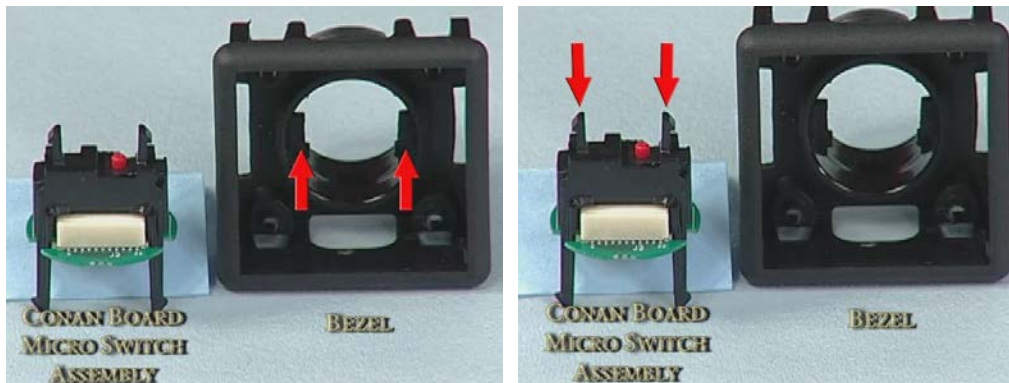

Figure 6
10. Next you will need to remove the micro switch and Conan board out of the bezel assembly. Looking at the example in **Figure 6** you will see that the bezel assembly has two lips on either side of the assembly. You can also see there are two locking legs on the Conan Board Micro Switch assembly.
12. To release the Conan Board Micro Switch assembly from the bezel. Using the magnet end from a pocket screwdriver push down and inward on each side of the two locking legs shown in Figure 6, then pull the assembly out from the bezel. See Figure 7.